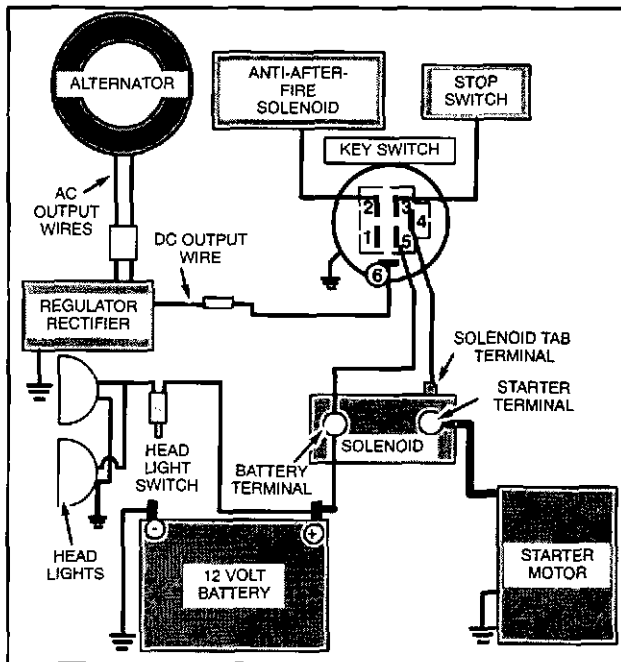

Fig. 28 - Typical 12 V Wiring Diagram
1. Before installing battery, connect all equipment to be operated. Fig. 28.